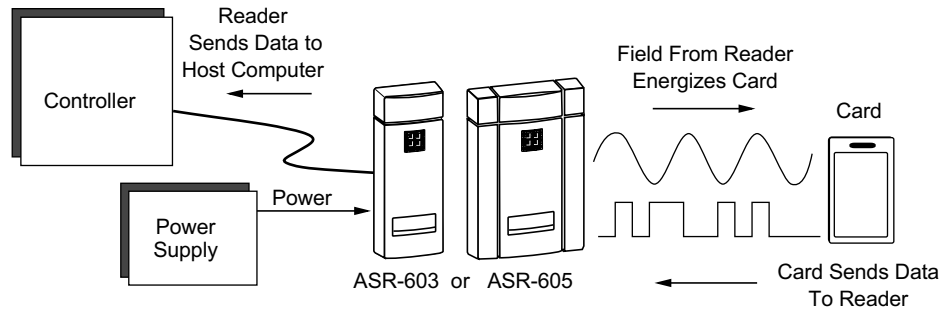

Figure 1. ASR-603/605 Block Diagram
When the reader is powered, a low-power radio frequency (RF) field is continuously transmitted by the reader (see figure 1). When a card is presented within the field of the reader, the microchip, embedded in the card, is activated and transmits a unique identification (ID) number back to the ASR-603/605 reader. The reader decodes and converts this data to the pre-determined Wiegand, or Magnetic Stripe compatible format and sends this code to an external controller through data cables. With this information, the controller determines what action is to be taken as a response to the card presentation.